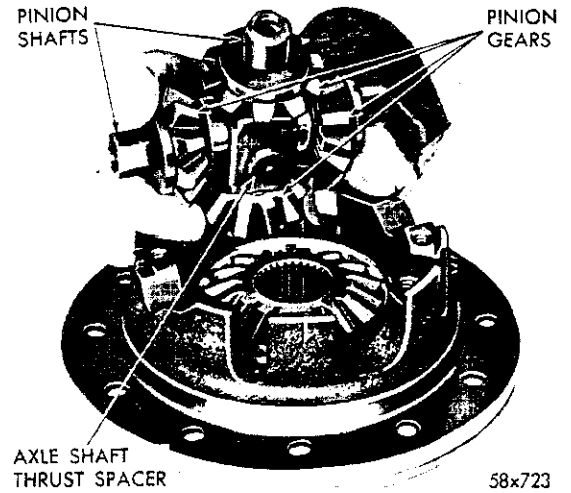

Fig. 38—Removing the Pinion Shafts and Gears
(4) Remove the pinion shafts with pinion gears (Fig. 38).